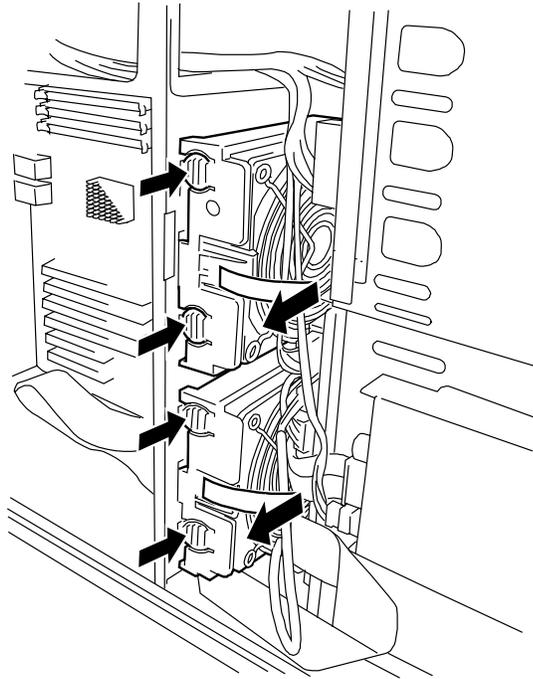

Figure 4-37. Removing a Fan Unit
3. Remove the fan unit connector from the system board. See Figure 4-37.
4. Push the locking tab to unlock the cooling fan unit, and remove the fan unit from the server. See Figure 4-37.